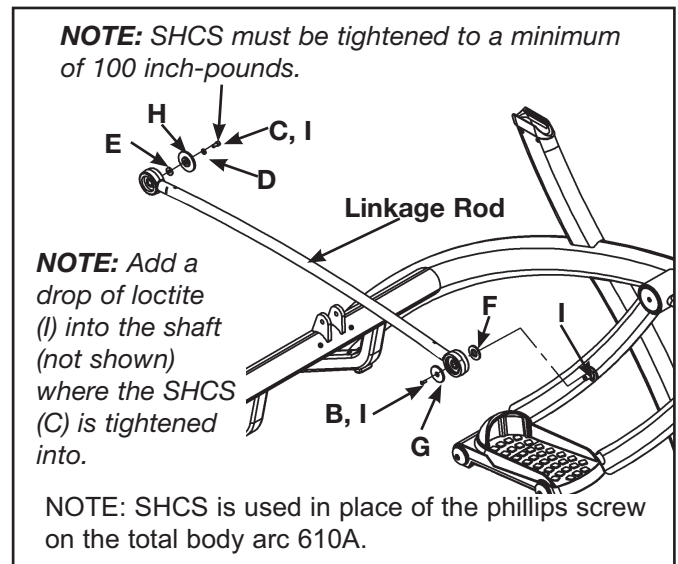

Figure 2 (Right Linkage Rod - User Position)
- A. Turn the main power switch above the power inlet to the off (0) position.
- E. Place a drop of loctite (I) on the SHCS (C) and place another drop of loctite (I) into the shaft (where the SHCS will be tightened into).
- F. Install the spacer (E), cap (H), flat washer (D) and SHCS (C, I) as shown in Figure 2. Tighten securely.
- G. Place a drop of loctite (I) on the Phillips screw (B) and place another drop of loctite (I) on the shaft (where the Phillips screw will be tightened into).
- H. Install the Phillips screw (B, I), spacer (G) and the other spacer (F - between linkage rod arm and foot plate arm) as shown in Figure 2.